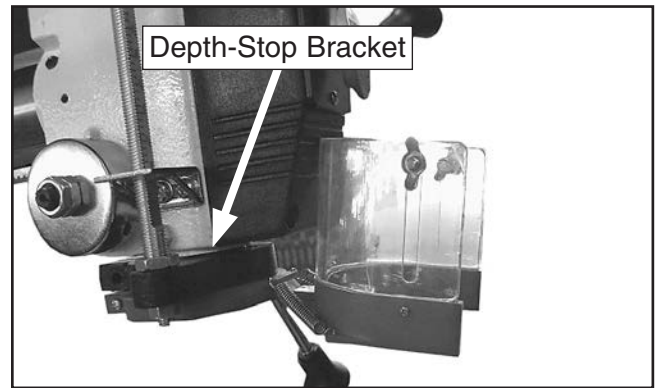

Figure 21. Chuck guard installed on depth-stop bracket.
17. Slide chuck guard onto bottom of depth-stop bracket, as shown in **Figure 21**.